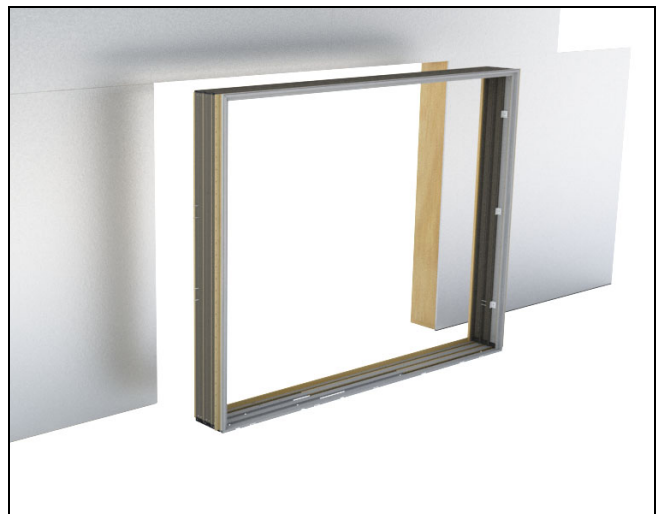

Figure 36
- Stand frame upright in front of rough opening. See figure 36.